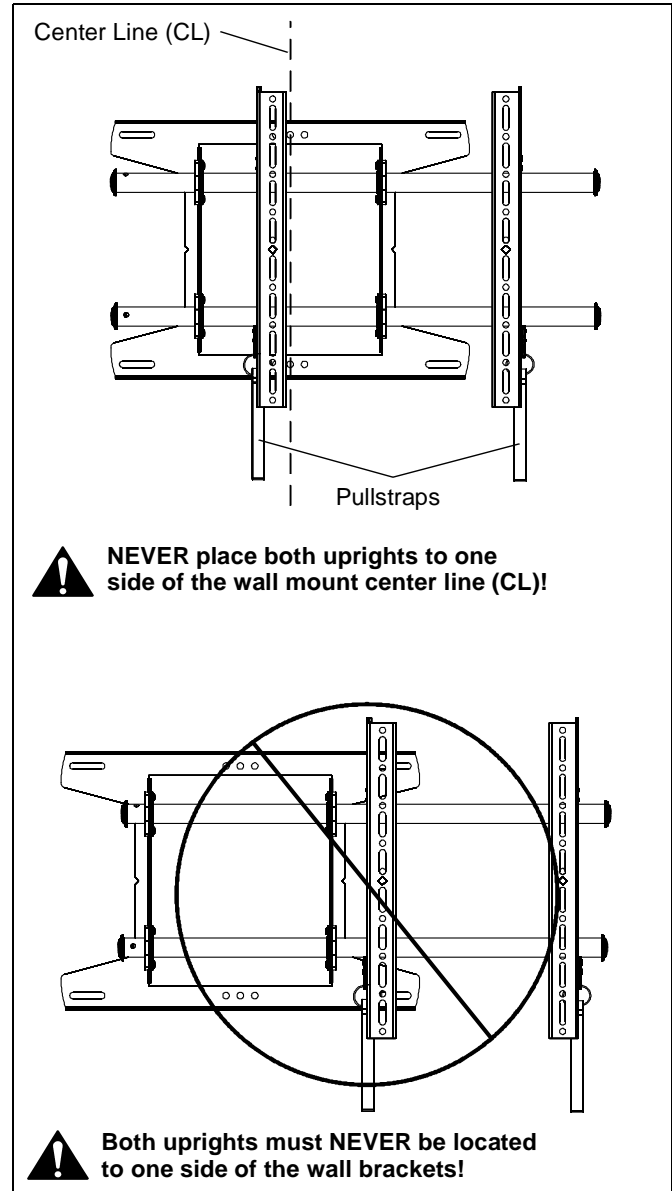

Figure 8
1. Adjust Velcro® pull strap (if necessary) so it does not extend beyond bottom of screen. (See Figure 8)
**NOTE:** Do NOT allow both uprights to be located on same side of wall bracket. (See Figure 8)
**NOTE:** NEVER place both uprights to one side of the wall mount center line! (See Figure 8)